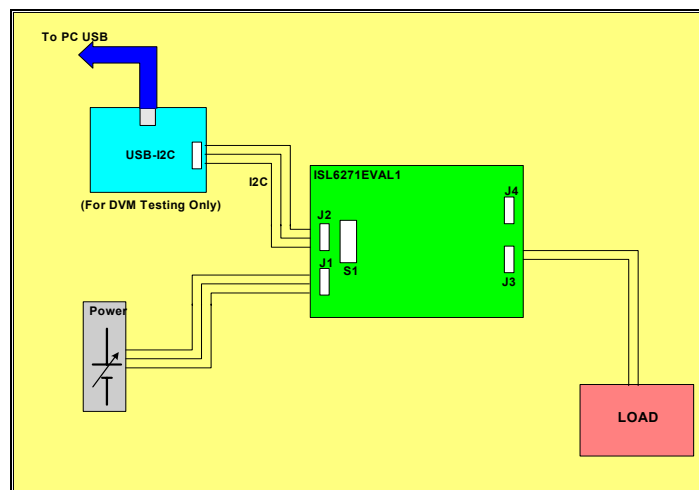
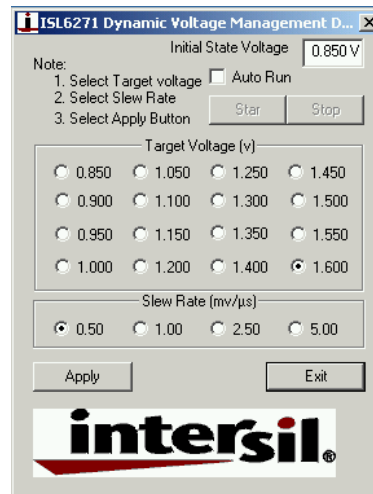
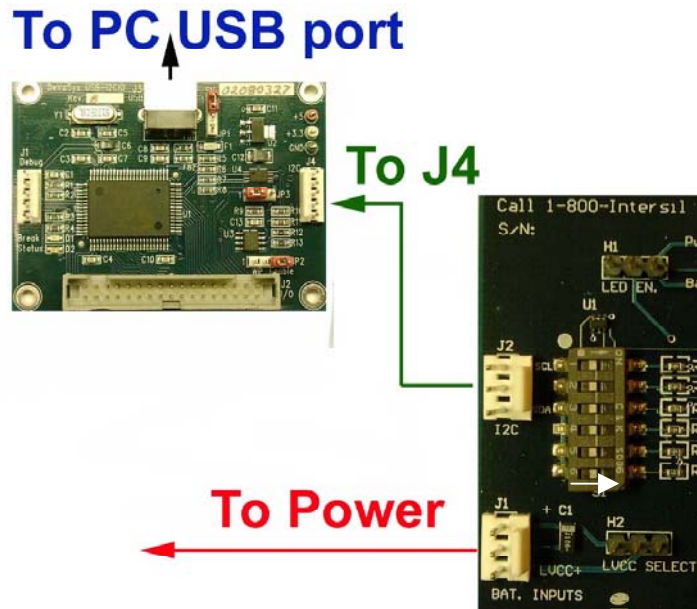

FIGURE 2. CONNECT J1 TO THE DUAL POWER SUPPLY
FIGURE 11. ISL6271A TESTING APPLICATION WINDOW
FIGURE 12. CONNECT THE INTERCONNECTING CABLE TO J2 ON THE EVALUATION BOARD
Connect J1 on the eval board to the dual power supply, with the (LVCC+) pin to 2.5V (supply to the 2 LDO's), the (+) pin to 3.7V (supply to the switching regulator), and the (-) pin to the supply common (gnd), **Figure 2**.
Once the SW is loaded and the DVM-choice screen is displayed (Figure 11), the two boards should be connected together (Figure 12). Before connecting the cable between the eval board and the USB-I²C module (Figure 2), apply input power (3.7V) to the eval board and then connect the interconnecting cable to J2 on the eval board. Switch S1 position 6 should be switched to the 'right' for I²C testing.
6. Click the "ISL6271A Demo" icon on your desk top to run the software. If you receive "Error in setting the initial stage" message, check your cable connections. Figure 11 window will pop up on your desktop. You will be able to adjust the ISL6271A output voltage and slew rate through the software.